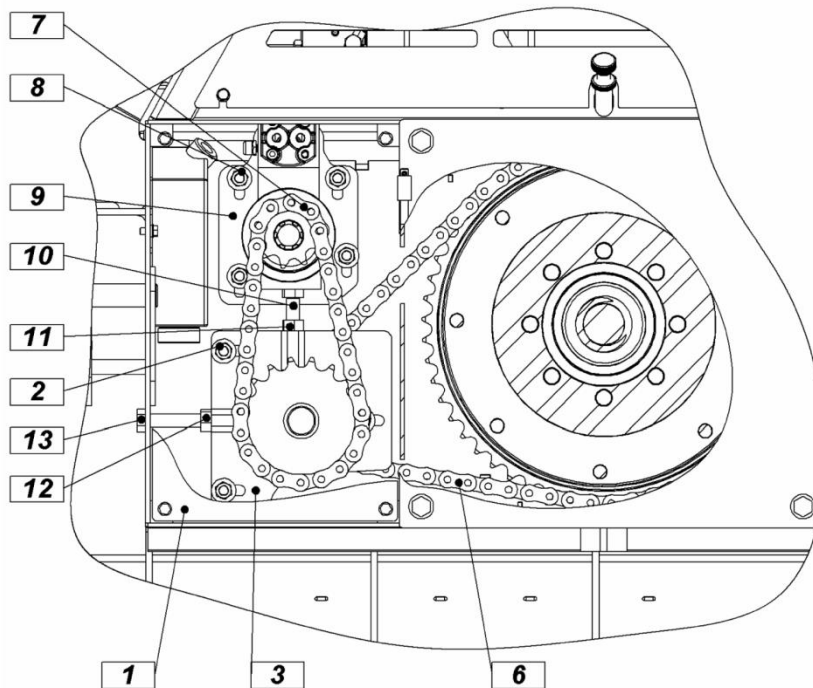

Figure 12
After a certain period of operation (10 hours), the drive chain stretches; therefore it must be checked frequently and tensioned, if required. It must be checked every 500 hours of operation or once every year. Tensioning is done according to the following procedure (figure 12)! First, disengage the PTO shaft and turn off the engine. Remove the protective sheet of the PTO shaft (pos 1, figure 12). Loosen the nuts (pos 2 and pos 8, figure 12) which fix the lower and upper drive (pos 3 and pos 9 figure 12). Then, unwind the safety nut (pos 12, figure 12) and using the screw (pos 13, figure 12) begin tensioning the longer chain (pos 6). Turn this screw to the right until the chain is properly tensioned. The chain is properly tensioned, when there is a swing of the chain for approximately 3-4 mm in transversal direction. Then tighten the screw with the counter-nut (pos 12, figure 12) to prevent the tensioner to get loosened. Now, securely tighten all four nuts on the lower drive (pos 2, figure 12). Then begin tensioning the shorter chain (pos 7, figure 12). If the four nuts (pos 8, figure 12) have been loosened beforehand, loosen the nut (pos 11, figure 12) and begin turning the tensioning screw (pos 10, figure 12) in left direction. This increases the distance between both housings. When the chain (pos 7, figure 12) is correctly tensioned, retighten the nut (pos 11, figure 12). At the end, similarly retighten nuts (pos 8).